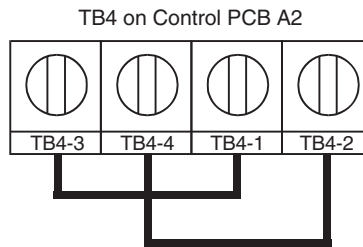

Fig 2.8 RS-485 Communication Connection
3. When using RS-485 communication, connect TB4-1 to TB4-3, and TB4-2 to TB4-4, on the control circuit terminal board. See Fig 2.8 below.